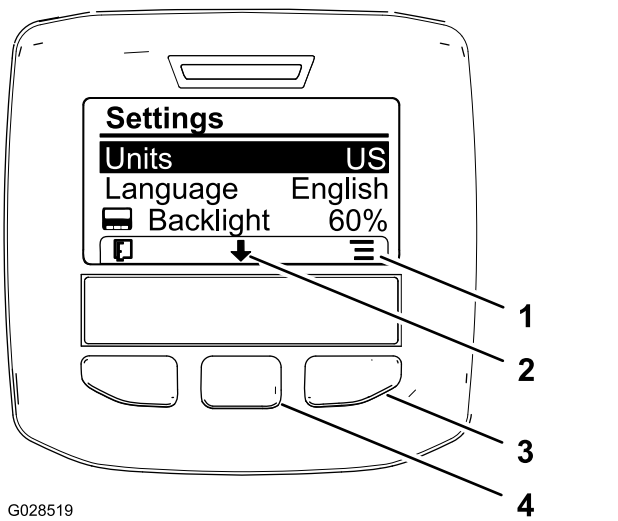

Figure 29
2. To change the unit of measure, press the right selection button to change the listed units of measure (Figure 29).
3. To change the language used in the display, pressing the center selection button (the button below the down arrow in the display) to move the selected option to Language (Figure 29).
4. Press the right selection button (the button below the list icon in the display) will to highlight the listed language used in the display (Figure 29).
6. Press the left selection button to return to the Home screen (Figure 29).